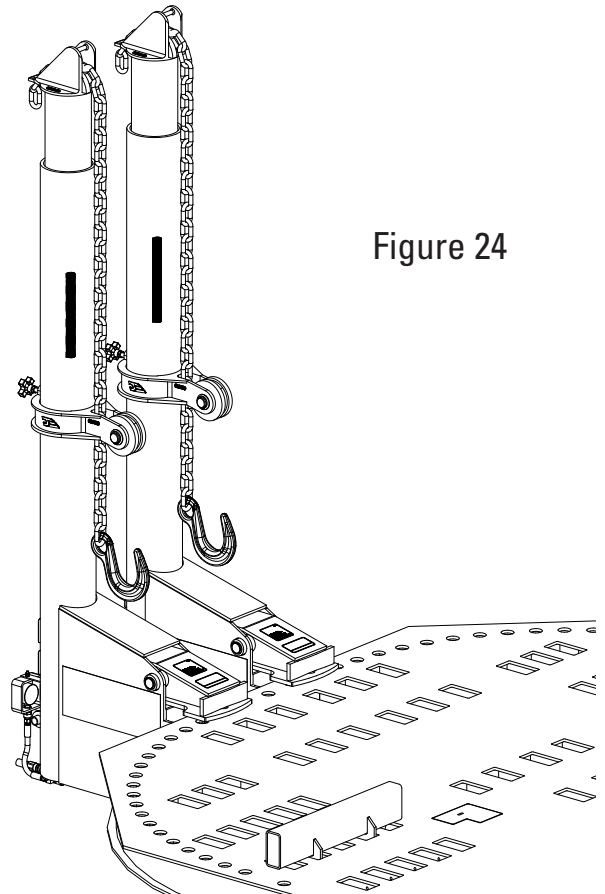

Figure 24
1. Position towers at front of machine and secure the "Sure-Lock" force clamps to front pinning holes, Figure 24.